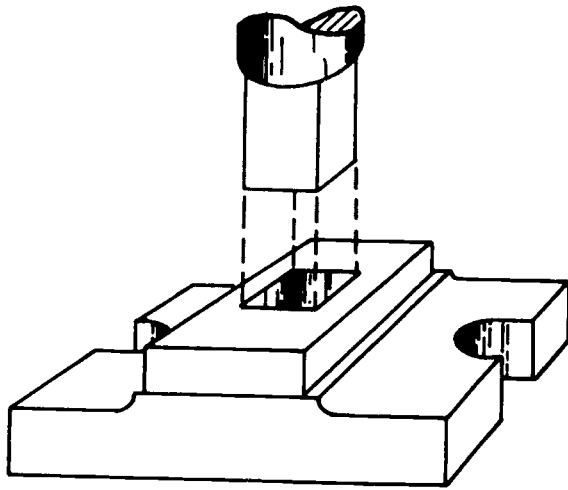

Figure 1-22 Piercing die
**Piercing.** The piercing operation consists of the punching of holes. It differs from blanking in that the punched out material is the scrap. Both flat-ended and spiral-cutting piercing punches are used. A flat-ended punch is illustrated in figure 1-22. It is often thought that piercing dies principally produce round holes. Instead, they are almost as frequently used for making openings of other shapes, such as square, oblong, irregular, curved, and slotted.